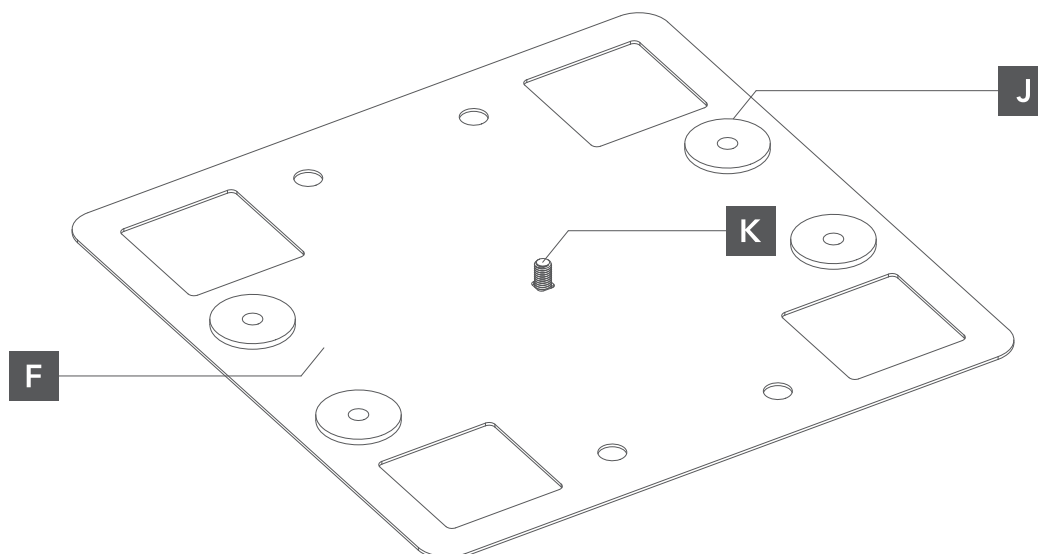

Fig. 3 Installing the mounting plate on the membrane roof
- 2 Install the locking bolts in the mounting plate and position the plate at the desired location on the roof sheet. Attach the studs to the roof through the mounting holes (Fig. 3). In some cases, fastening the studs may not be necessary.